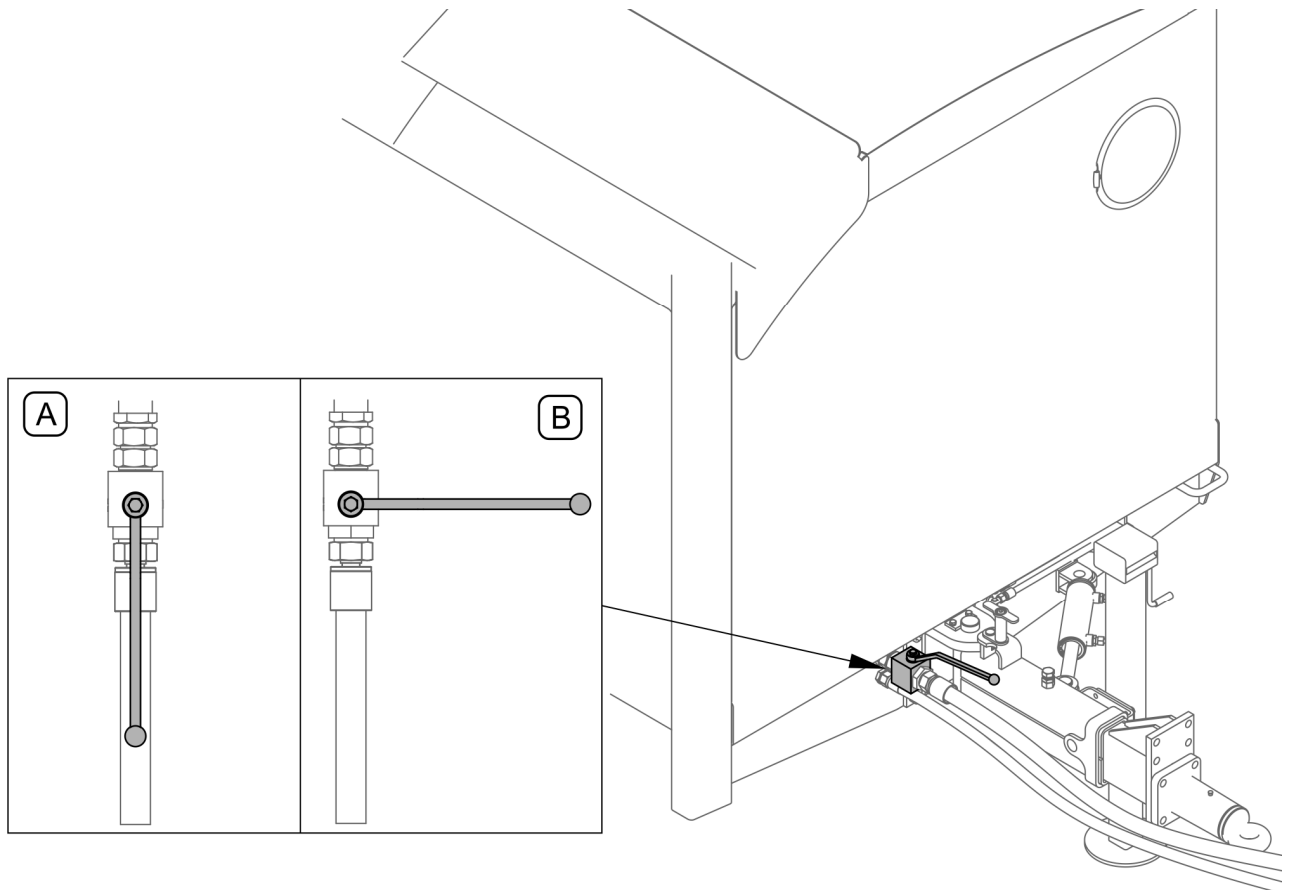

FIG. 4.8 Hydraulic system valve
- Make sure that the hydraulic system valve is open (FIG. 4.8)
Before starting the machine make sure that the hydraulic system valve (FIG. 4.8) is open (position A). The valve should be closed only in order to replace supply pump, hydraulic intensifier or hydraulic conduits.
During operation of the sweeper, the valve on the hydraulic supply conduit should be open (FIG. 4.8).